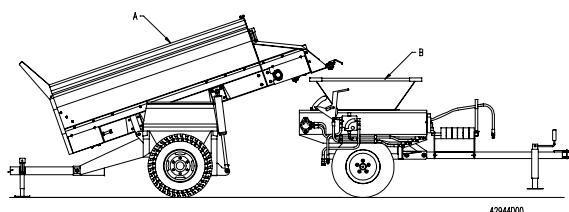

Figure 17: Raise the MH-400 to unload into a smaller machine
1. Lift lock pin and rotate swing arm to desired position (Figure 17)